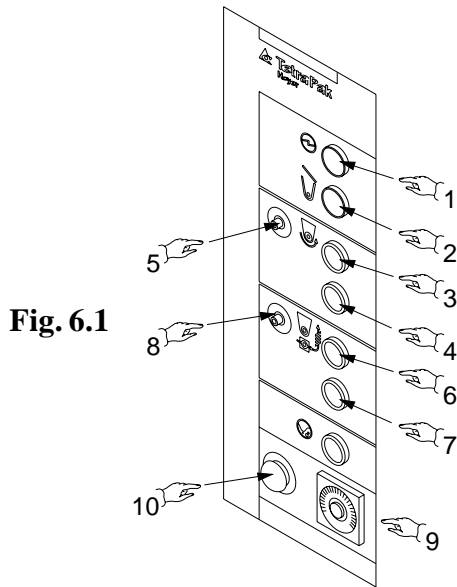

Fig. 6.1
- c. Start the vane pump and screw feeder motors by pressing luminous buttons (*Part.3/6, Fig.6.1*), respectively, in that order.
- d. Set the slow agitator timer (*Part.9, Fig.6.1*)
- Potentiometer (*Part. 8, Fig. 6.1*), to regulate the speed of the vane pump.
- Potentiometer (*Part. 5, Fig. 6.1*), to regulate the speed of the screw feeder.
- Turn the potentiometer (*Part. 8, Fig. 6.1*) clockwise to increase the speed of the main motor.
- Turn the potentiometer (*Part. 5, Fig. 6.1*) clockwise to increase the speed of the screw feeder.
- Turn the potentiometer (*Part. 8, Fig. 6.1*) counterclockwise to reduce the speed of the main motor.
- Turn the potentiometer (*Part. 5, Fig. 6.1*) counterclockwise to reduce the speed of the screw feeder.
- Turn off the screw feeder motor (*Part. 4, Fig. 6.1*).
- Turn off the vane pump and agitator motor (*Part. 7, Fig. 6.1*).
- Press the emergency button (*Part. 10, Fig. 6.1*).